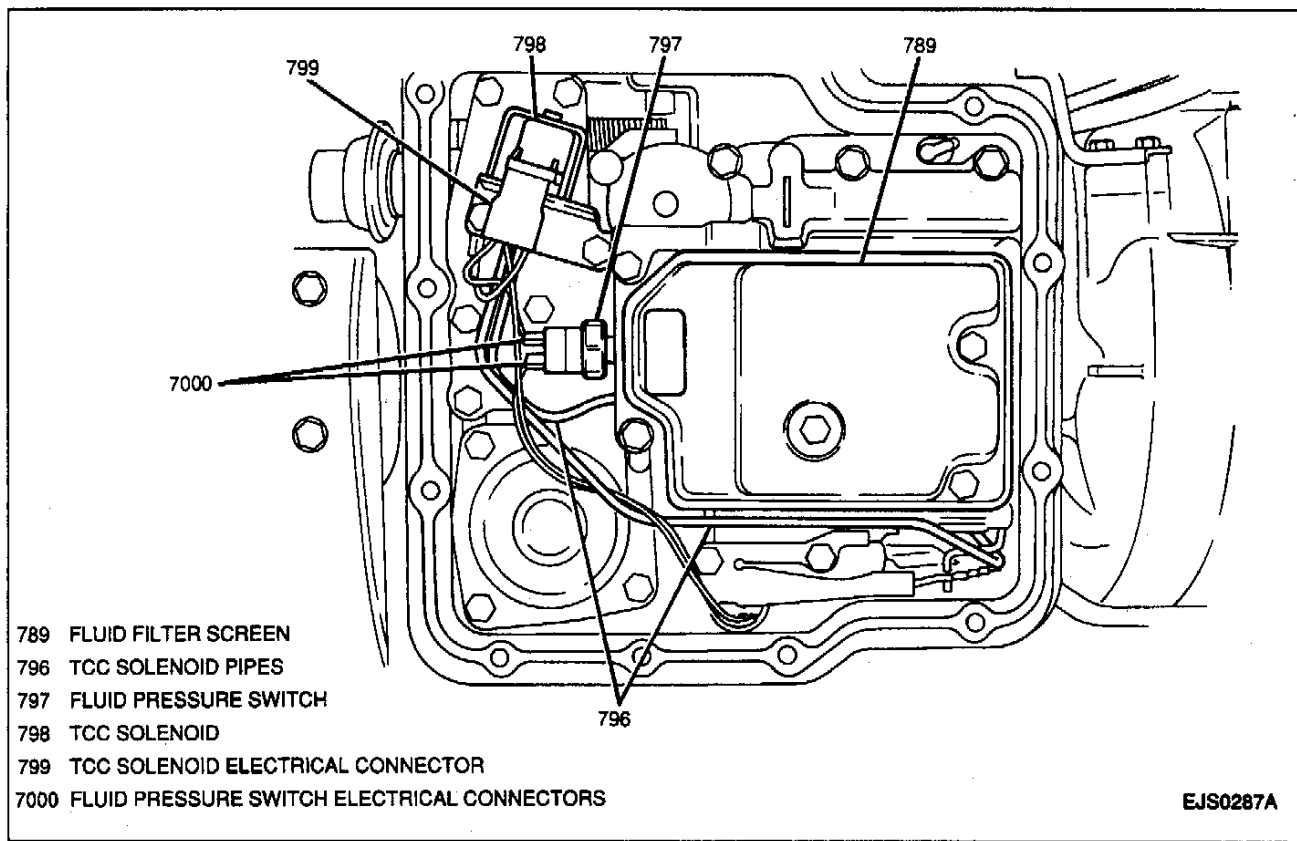

Figure 37—TCC Solenoid, Fluid Pipes and Fluid Pressure Switch (3L30, 3-Speed)
Figures 37 through 47
5. Two TCC solenoid pipes from TCC solenoid, fluid pump and valve body (Figure 37).
6. Electrical connector from TCC solenoid (Figure 37).
7. Electrical connectors from fluid pressure switch (Figure 37).
- 15. Electrical connectors to fluid pressure switch (Figure 37).
- 16. Electrical connector to TCC solenoid (Figure 37).
18. Two TCC solenoid pipes into TCC solenoid, fluid pump and valve body (Figure 37).
- 19. New fluid filter screen gasket and fluid filter screen onto valve body; secure with three bolts (Figure 37).